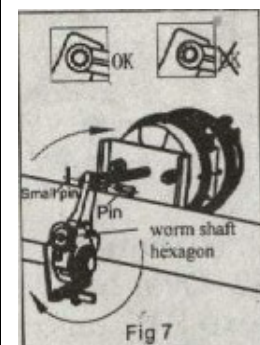

Fig 7
4. Turn the worm shaft hexagon clockwise with SW12 spanner (you can't use electric spanner ). Insert the clevis pin when the bush hole coincides with the clevis pin hole, and then secure . Now the angle between arm body and push rod should be 105-110 degree (As Fig 7)